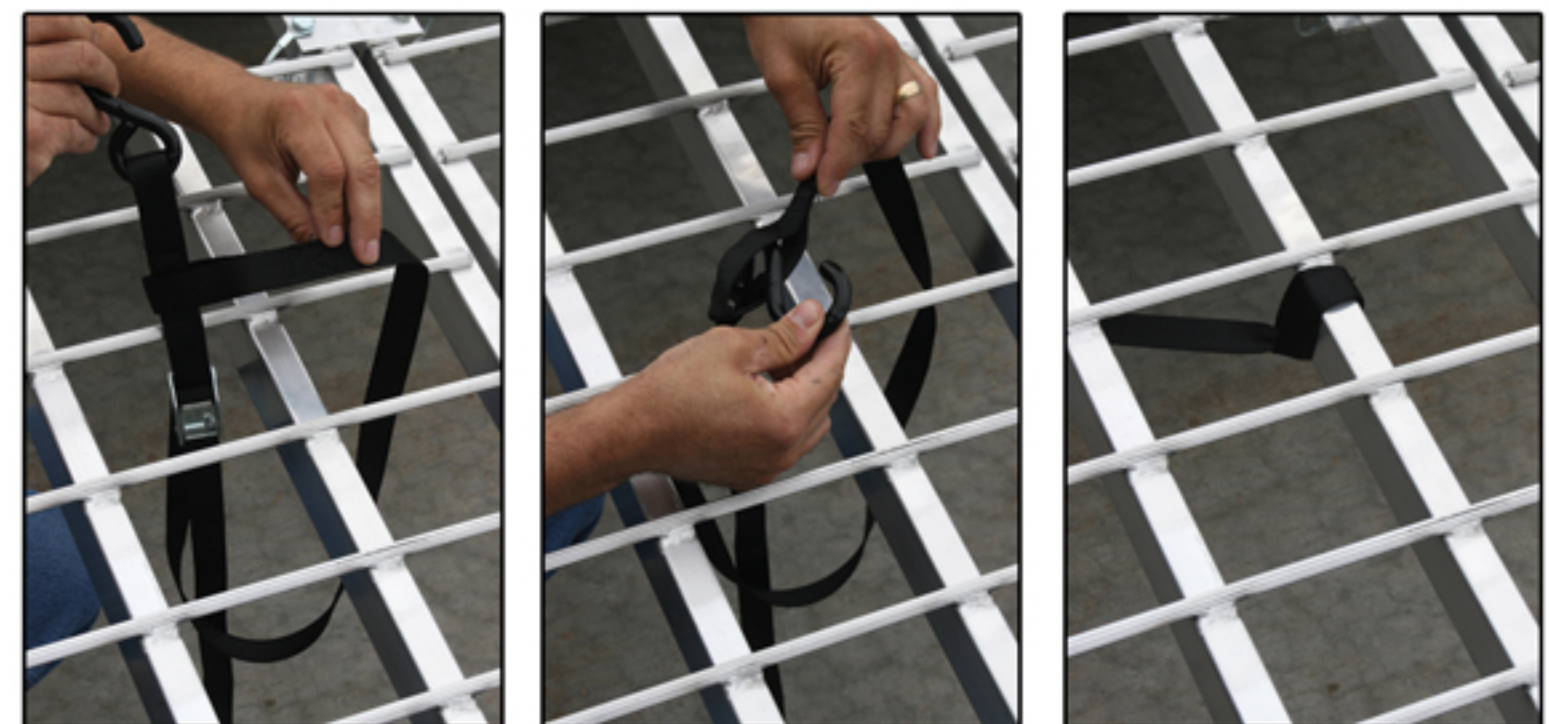

Figure 5
2. Loop the strap around the main support beam of the ramp approximately 2ft from the top of the ramp (Figure 5).